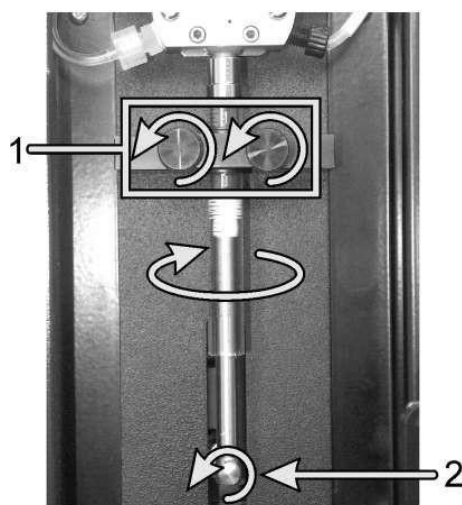

Figure 12.11: Remove the syringe with clamping screw (1) and plunger screw (2)
4. Loosen the two screws holding the syringe clamp, as shown in Figure 12.11.
5. Remove and retain the thumbscrews that hold the plunger to the pull-down arm (see Figure 12.11)
6. Twist the glass tube in the direction shown in Figure 12.11 and pull it out of the syringe valve.